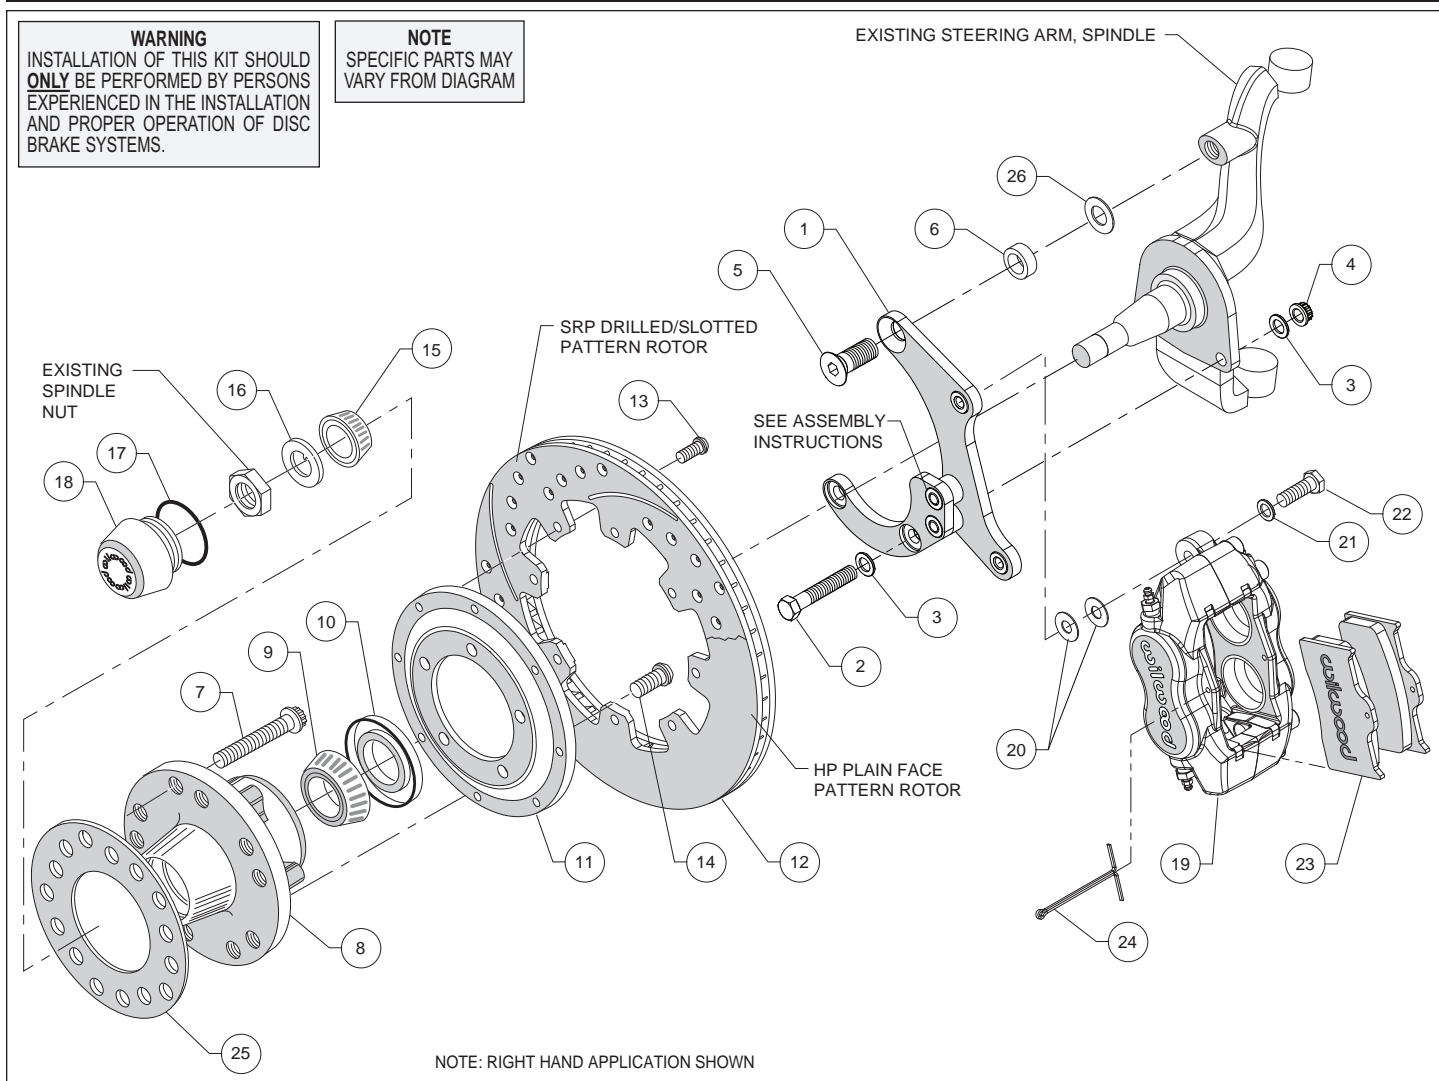
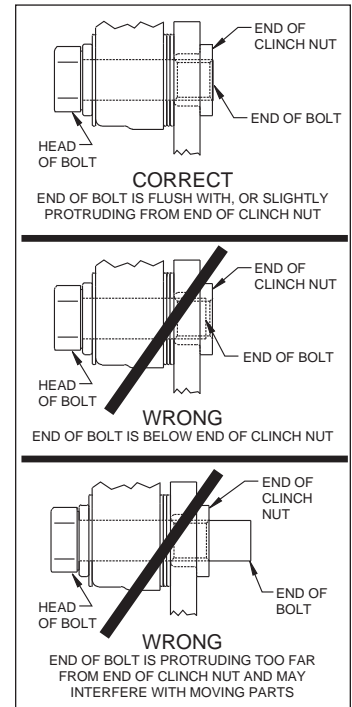

Figure 1. Typical Installation Configuration
Figure 3. Clinch Nut Engagement Diagram
Assembly Instructions (numbers in parenthesis refer to the parts list and Figure 1 on the preceding pages): **CAUTION:** All mounting bolts must fully engage clinch nuts. Be sure to check that all bolts are either flush or protruding through flanged side of clinch nut after shimming, Figure 3.
- The caliper mounting bracket (1) has been assembled at the factory for alignment purposes. Loosen the two bolts that secure the brackets together so that the bolts are hand tight only, this will enable the bracket assembly to be adjusted to accommodate various spindle tolerances during assembly. Align bracket with the two lower holes on the spindle face and attach using bolts (2), washers (3), and secure using lock nuts (4), as shown in Figure 1 and Photo 1. Install bolt (5) through top of bracket while placing spacer (6) between bracket and spindle, Figure 1. Ensure that the flanged heads of the clinch nuts in the bracket are facing outboard, Photo 1. Temporarily tighten the mounting bolts.
- Check that the bracket is aligned parallel to the rotor by assembling and installing the hub/rotor per the step below. If not, add shims (26) between the spacer (6) and the spindle to align the bracket, Figure 1.
- Pack the large inner bearing cone (9) with high temperature disc brake bearing grease (available from your local auto parts store) and install into the backside of the hub (8), Photo 3.
- Install the grease seal (10) by pressing into the backside of the hub (8), flush with the end of the hub, Photo 3.
- Orient the rotor (12) and the rotor adapter (11) as shown in Figure 1 and Photo 4. Attach the rotor to the adapter using bolts (13). Using an alternating sequence, apply red *Loctite*® 271 to the threads, and torque to 25 ft-lb.
- Mount the adapter/rotor assembly (11/12) to the hub (8) using bolts (14), as shown in Figure 1 and Photo 5. Using an alternating sequence, apply red *Loctite*® 271 to the threads, and torque to 45 ft-lb.
- Pack the small outer bearing cone (15) with high temperature disc brake bearing grease and install into hub (8). Slide the hub/rotor assembly onto the spindle. Secure using spindle washer (16) and OEM spindle nut, Photo 6. Adjust bearings by tightening the wheel bearing nut to 60 **in-lbs.** while turning the hub/rotor assembly (11/12). Install saved OEM nut lock (if any) on the wheel bearing nut with one pair of slots in-line with (covering) the cotter pin hole. Back off the adjusting nut lock assembly (or castle nut) one slot and install a new cotter pin (not supplied). **The resulting adjustment should be zero (no pre-load to 0.003 inch end play).**
- Screw dust cap (18) into hub (8), Photo 7. Friction created by the o-ring (17) on the dust cap keeps it from unscrewing. **NOTE:** The O.D. of the existing OEM spindle washer may be larger than the I.D. of the dust cap not allowing it to seat against the hub face. Therefore, use the spindle washer (16) supplied with the kit instead of the OEM washer.
- NOTE:** Please reference the caution statement at the beginning of the assembly instructions. Mount the caliper (19) onto the caliper mounting bracket (1) using bolts (22) and washers (21), as shown in Figure 1. Initially place two .035" thick shims (20) on each bolt between the caliper and the bracket, Photo 8. Temporarily tighten the mounting bolts and view the rotor (12) through the top opening of the caliper. The rotor should be centered in the caliper, Photo 9. If not, adjust by adding or subtracting shims between the bracket and the caliper. Always use the same amount of shims on each of the two mounting bolts. **NOTE:** The end of each bolt must be flush with or slightly protruding from the head of the clinch nut, as shown in Figure 3. If necessary place spare shims between washer (21) and caliper mounting ear to achieve the proper clinch nut engagement. Once the caliper alignment and clinch nut engagement are correct, remove the bolts one at a time, apply red *Loctite*® 271 to bolt threads, and torque to 40 ft-lb.
- Install the disc brake pads (23) into the caliper, with the friction material facing the rotor (12), and secure in place using cotter pin (24), Photo 10.